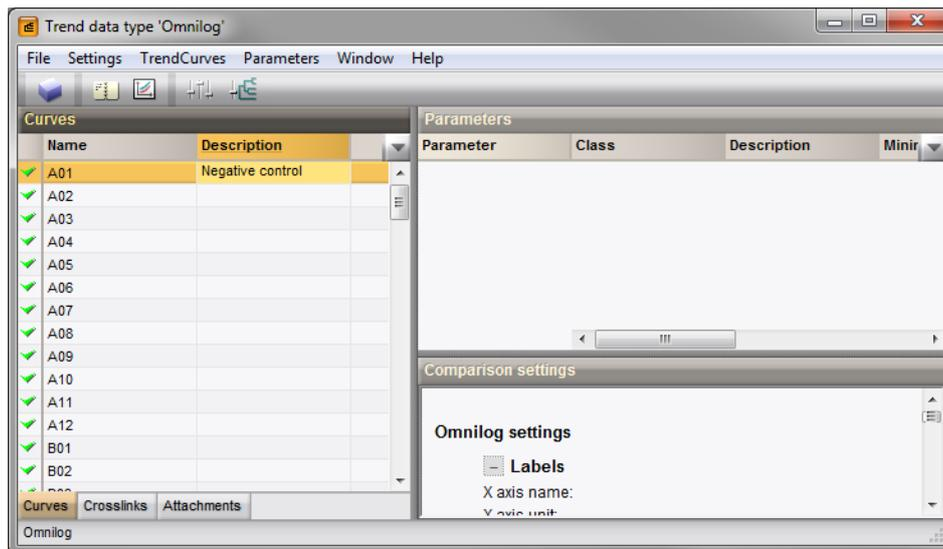

Figure 11: The *Trend* type window.
17. Click twice on a cell in **Description** column. The information will appear highlighted and can be edited (see Figure 11).